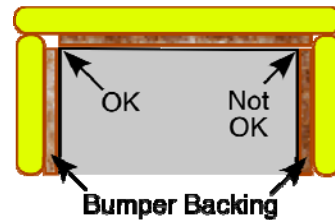

Figure 8 - 4
- O. The BUMPER backing must not extend beyond the “edge” of the ROBOT. The backing of adjacent BUMPER segments must not attach to each other if the attachment would require that the joint extend into the corner (see Figure 8 – 4).